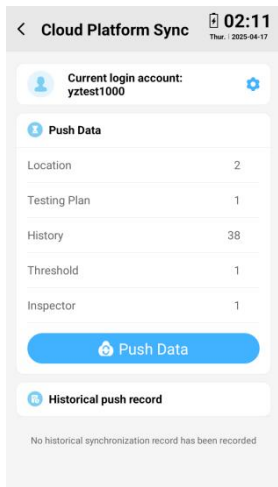

Figure 4.8-3 Cloud platform synchronization interface
(2) After logging in, you can perform cloud platform data pull or data synchronization upload, as shown in Figure 4.8-3. Clicking the "⚙️" button shown in Figure 4.8-3 will display the available operations: ① Modify device name; ② Pull server data coverage; ③ Set upload method; ④ log out.